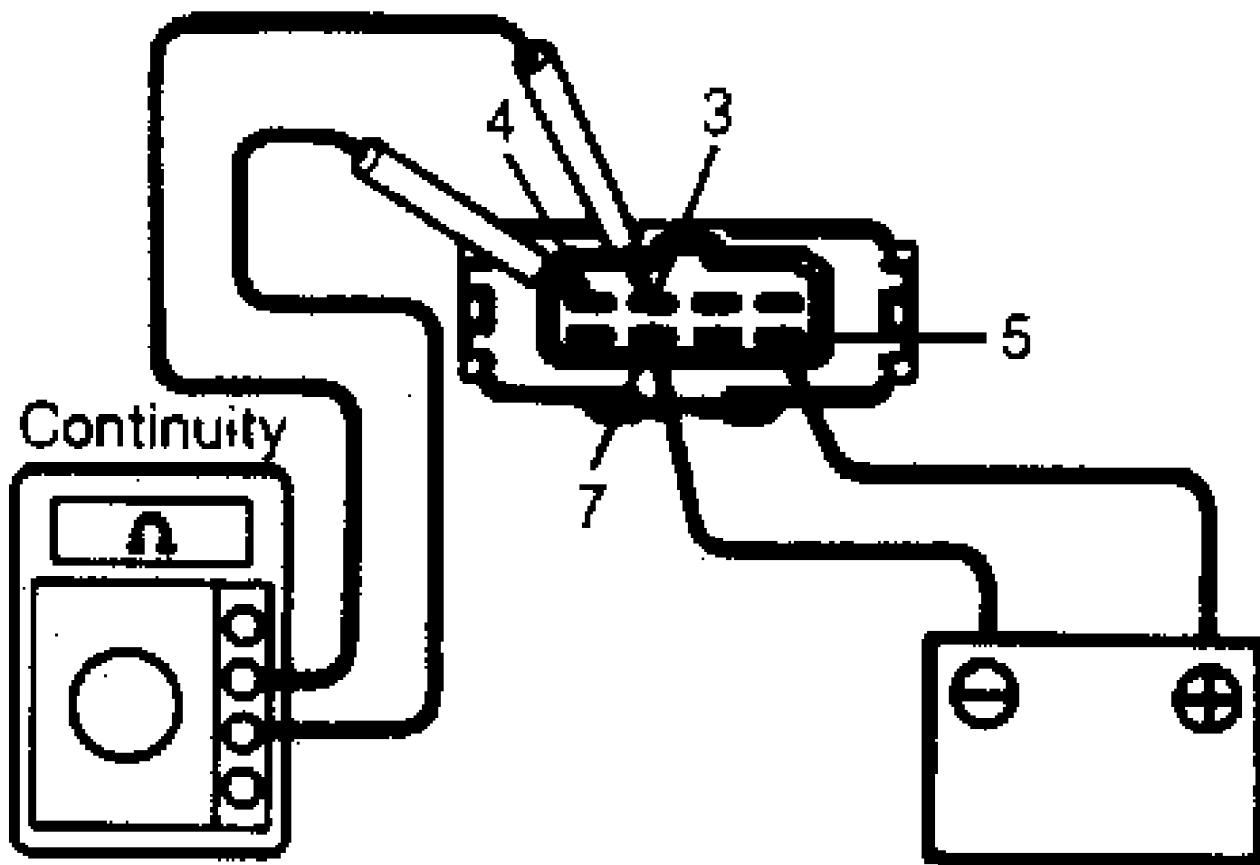

Fig. 10: Blower Speed Control Relay Connector
terminals No. 5 and 7. Check that no continuity exists across terminals No. 3 and 4. See Fig. 10.
1) Using an ohmmeter, check that continuity exists across terminals No. 5 and 8. Check that no continuity exists across terminals No. 2 and 3. See Fig. 10.
1) Using an ohmmeter, check that continuity exists across terminals No. 5 and 6. Check that no continuity exists across terminals No. 1 and 3. See Fig. 10.